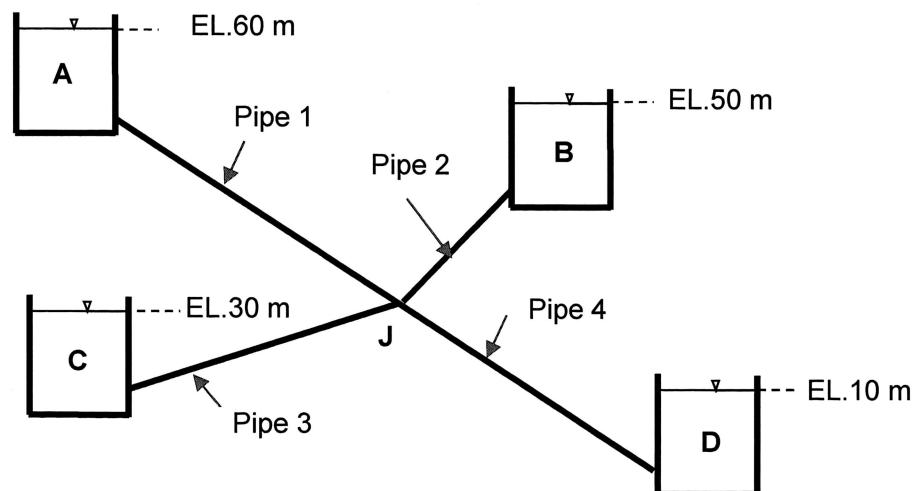

Figure Q4
- (c) Figure Q4 shows how 4 reservoirs, A, B, C and D are connected to a common junction J by pipes 1, 2, 3 and 4, respectively. The pipe characteristics are given in Table Q4.